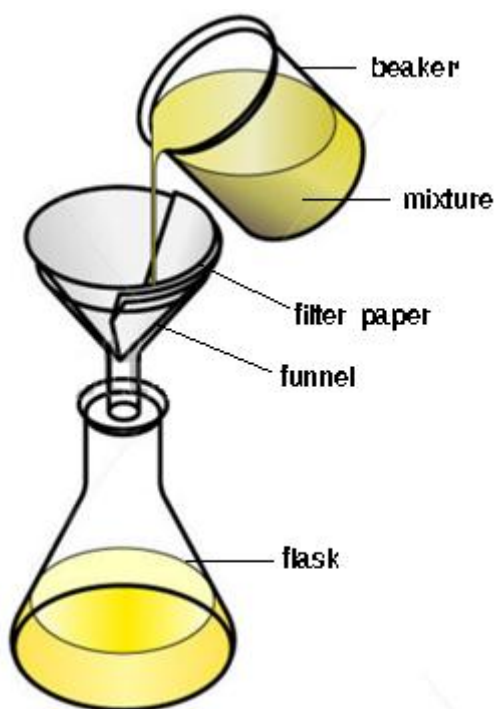

Figure 10: Filtration
2. Pour the mixture into the funnel fitted with a filter paper and collect the filtrate in the flask as shown in Figure 10.